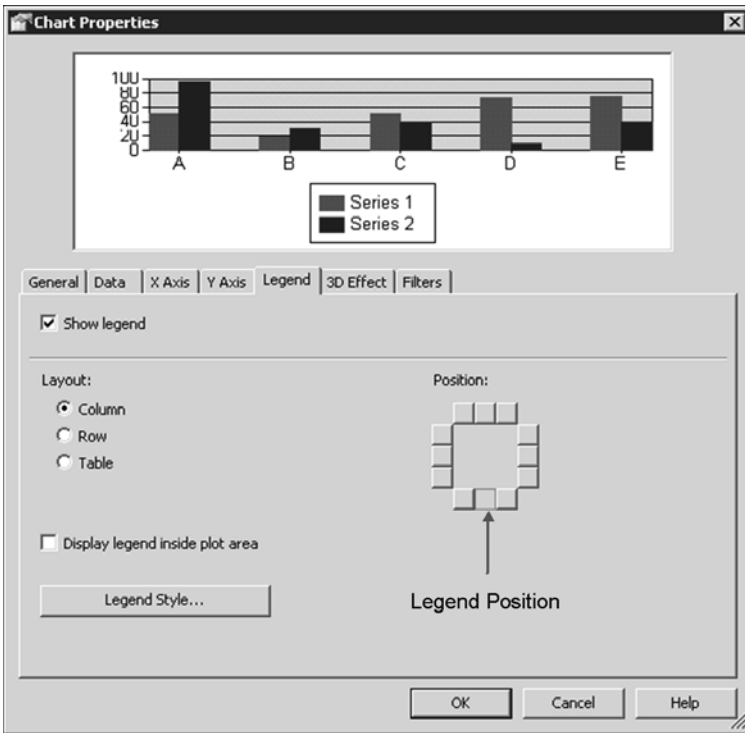

FIGURE 21.19 Chart properties.
5. On the General tab, select Column from the Chart Series Type list. Select the Legend tab and click the bottom middle box to reposition the chart legend, as shown in Figure 21.19. Click OK to close the properties window.